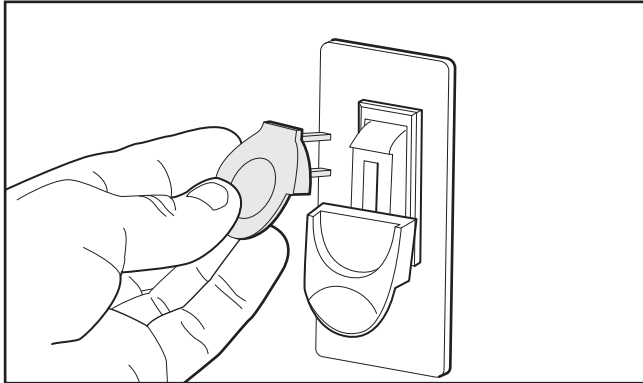

Figure 8. Removing switch key from paddle switch.
6. Remove the switch disabling key, as shown in **Figure 8**.